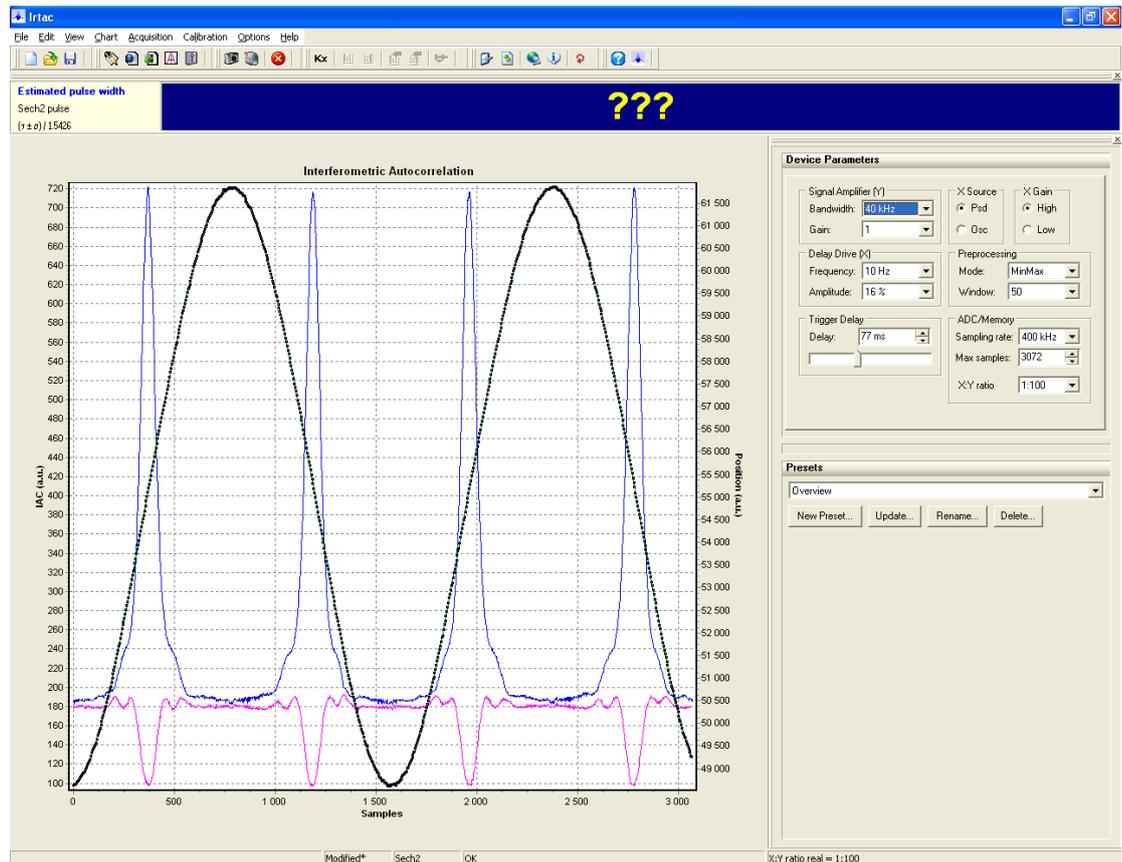

Fig. 6
22. By rotating the screw ST, even out the interferometer arms and obtain results like in the Fig 6.